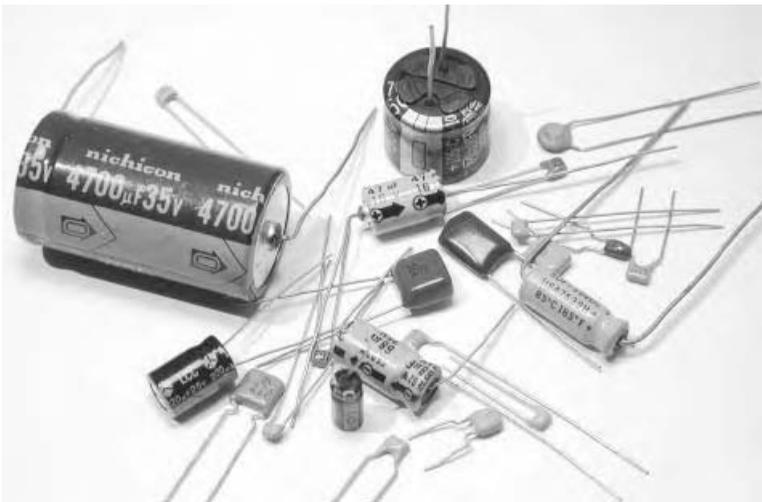

Figure 12.2 Some capacitors.
- Capacitors, in two basic forms (see figure 12.2):